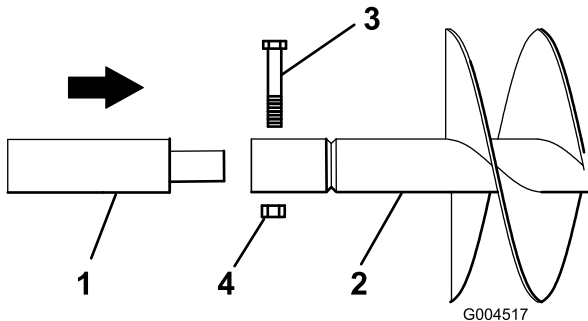

Figure 6
- If using an extension with the auger, insert the end of the extension into the end of the auger and secure the auger to the extension with a bolt (7/8 x 4-1/2 inch) and nut (7/8 inch) as shown in Figure 6.